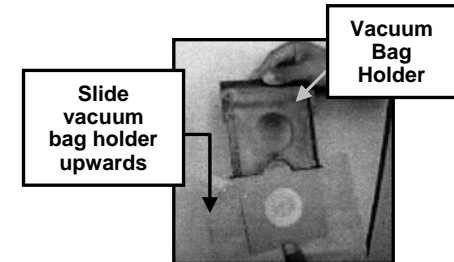

Fig. 10
6. Take a new vacuum bag and attach it to the vacuum bag holder by sliding the vacuum bag's cardboard front into the grooves of the vacuum bag holder. It should slide in easily. (Fig. 10) **DO NOT REUSE THE VACUUM BAG.**